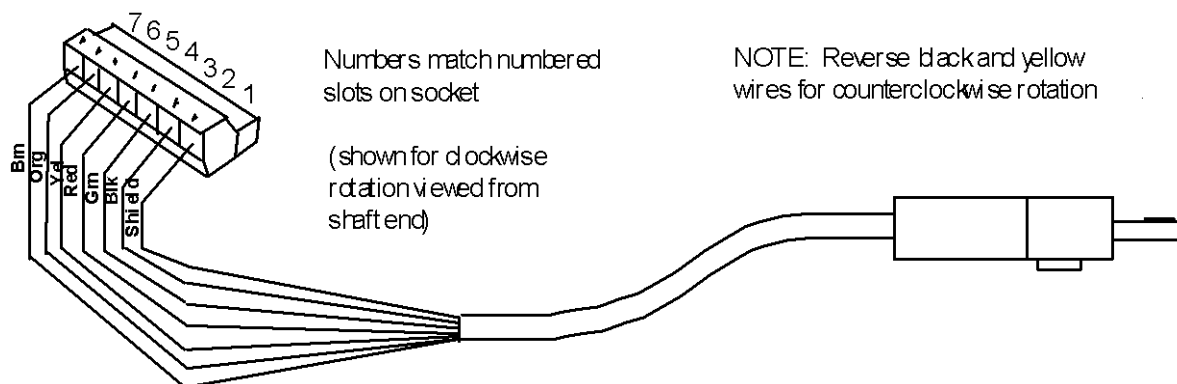
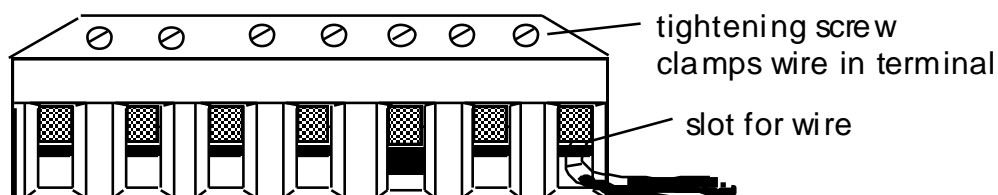

Figure 2-5. Wiring for resolver cable (see table below)
Figure 2-6. Attaching wires to connector
5. Attach the wires to the L-shaped connector as shown in Figure 2-5. Make sure you connect the black and yellow wires correctly based upon the way your resolver will rotate—clockwise or counterclockwise. To connect a wire, find the correct terminal and loosen the screw over it by turning it counterclockwise (see Figure 2-6). Strip the correct wire for this terminal 1/4" (6.4 mm) from end. Insert bare wire into the terminal 90% of the way. Tighten the screw. The metal tooth inside the terminal will clamp down on the bare wire for a tight connection. Make sure that the metal tooth is clamped down on the bare part of the wire, not on the insulation.
4. Attach the wires to the connector as shown in Figure 2-5. You will be wiring in parallel (#4 red to red, #5 yellow to yellow, etc.), so that when you are finished, you should have two wires of the same color connected to each terminal on TB105 (DiPro 1500 or ProCam 1500) or TB103 (Wintriss Brake Monitor). To connect a wire, refer to step 5 in "To wire the resolver". Also see Figure 2-6.
_____ Is the resolver cable wired to the connector correctly. See Figure 2-5.